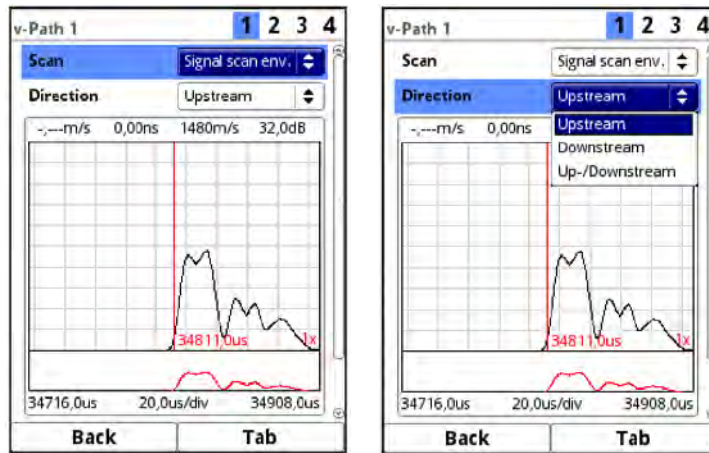

Fig. 44-3 Signal scan envelope
- **Signal Scan Envelope** (Fig. 44-3)